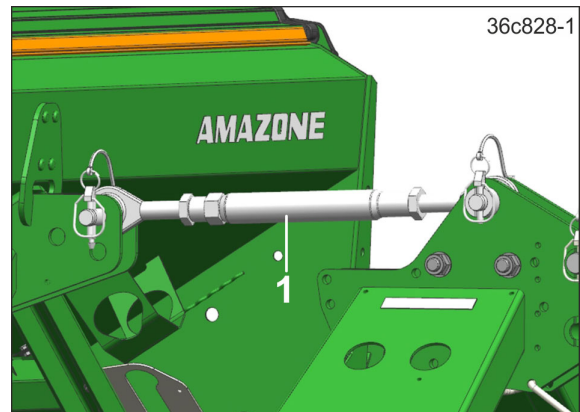

Fig. 132
14. Align the pack top seed drill until straight by adjusting the top link (Fig. 132/1).